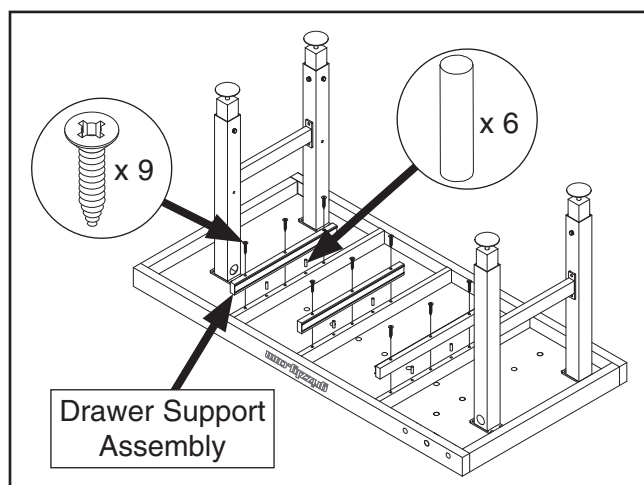

Figure 14. Installing drawer support assemblies.
15. Use (6) wood dowels to attach drawer support assemblies to workbench top, as shown in **Figure 14**.
16. Secure drawer support assemblies to workbench top with (9) #10 x $1\frac{1}{2}$ " wood screws (see **Figure 14**).